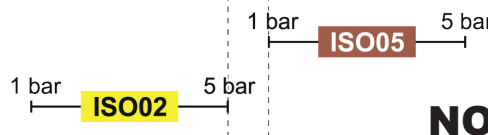

Fig. 141
• **NON-compatible nozzles:** the flowrate at 1 bar of the ISO05 nozzle is HIGHER than the flowrate at 5 bars of the ISO02 nozzle (Fig. 141).